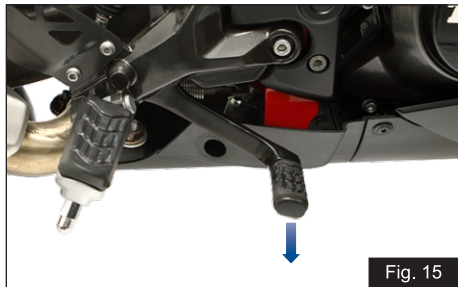

Fig. 15
**Rear Brake Pedal (ref. Fig. 15)**